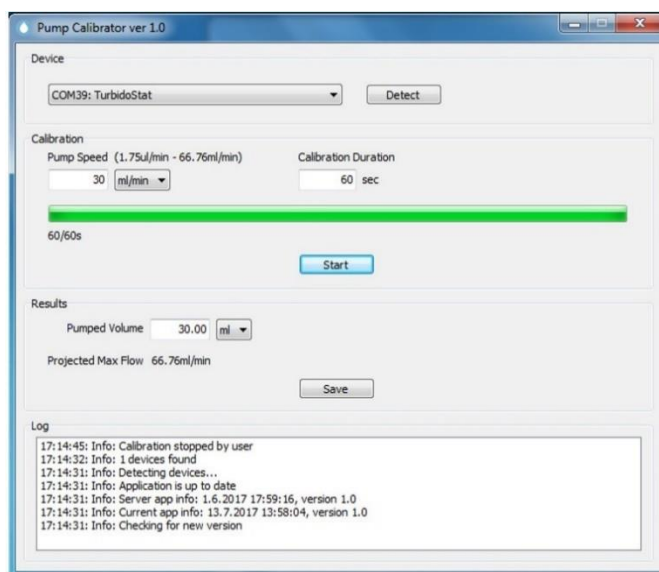

Fig. 7 Turbidostatic pump calibrator window.
- Start the PumpCalibrator.exe file. The Turbidostat module should be detected automatically. If not, click on **Detect** button (Fig. 7). In case, the PC still cannot recognize the Turbidostat module, please change the setting of the appropriate COM port on your PC.